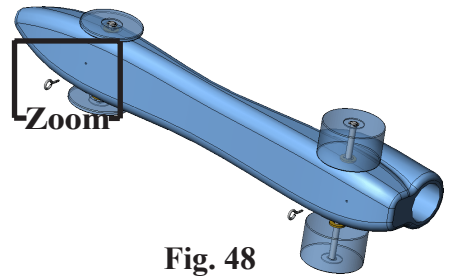

Fig. 48
Step 1. Zoom in around **front eye screw and hole**, Fig. 48. To **zoom**, hold down **Shift** key and drag with middle mouse button (wheel). To **pan**, hold down **Ctrl** key and drag with middle mouse button (wheel).